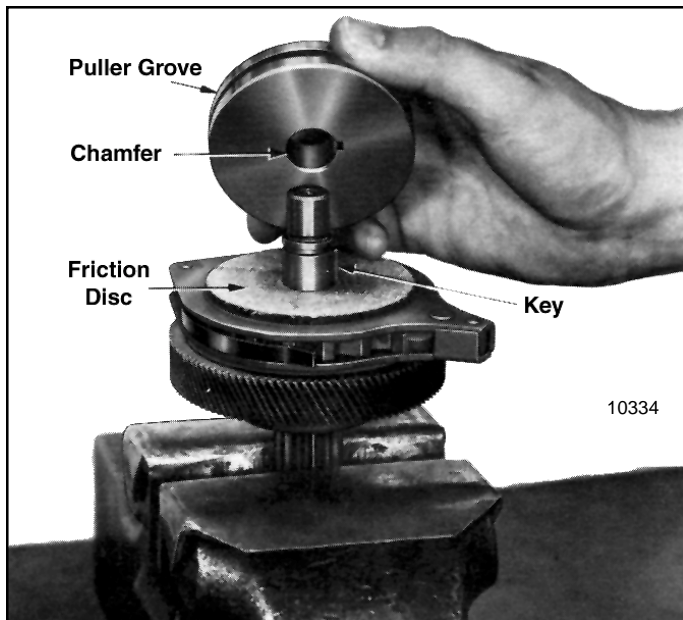
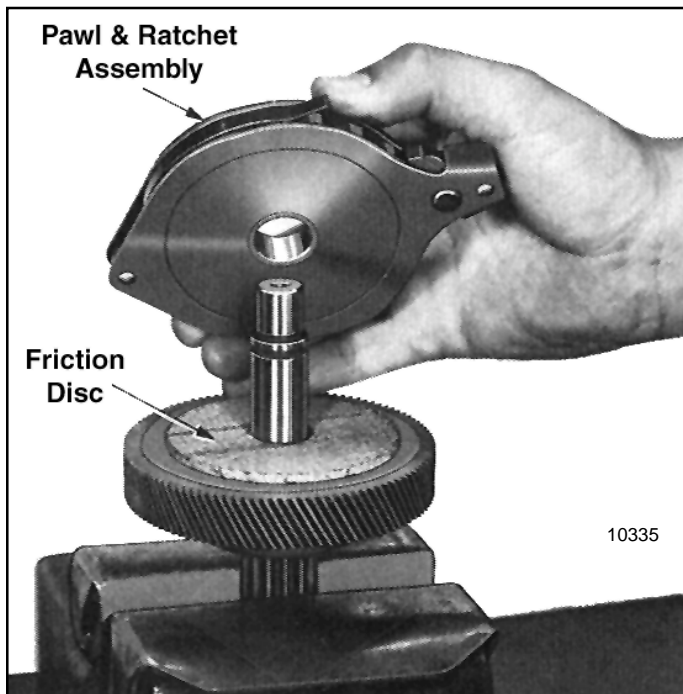

Figure 7-19. View Showing Load Brake Flange Removed
Figure 7-20. Removing Pawl and Ratchet Assembly From Load Brake Shaft
(2) Using a puller tool, remove brake flange from shaft. A groove is provided around outer diameter for this purpose. See Figure 7-19. Remove key from shaft and lift off 2 friction discs, and the pawl and ratchet assembly (Figure 7-20).
- (4) When installing pawl and ratchet assembly on load brake shaft, be certain that teeth on ratchet face are in the same direction as shown in Figure 7-20. The ratchet assembly should rotate freely when turned counterclockwise and the pawl should engage ratchet teeth when unit is turned clockwise.
- (5) When installing brake flange position it with chamfer facing friction disc, Figure 7-19.